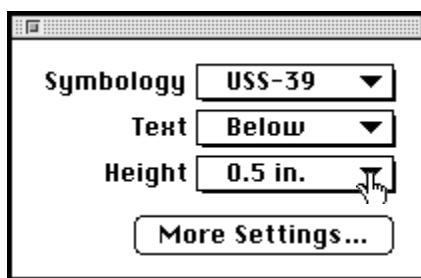

Figure 2-2 Bar Code Info Window - Selecting Bar Code Height
2. At the Bar Code Info window, click the triangle to open the **Height** pop-up menu. See Figure 2-2.